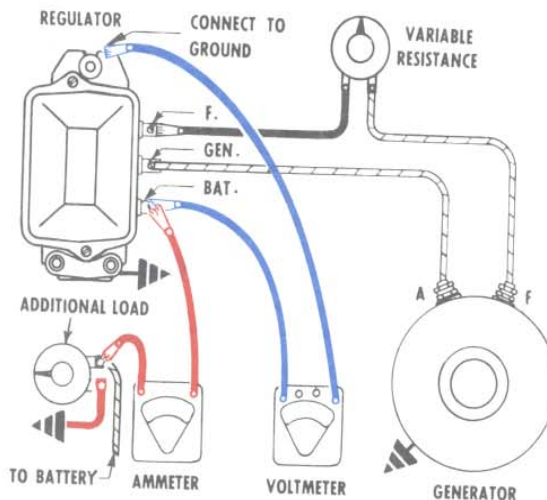

Figure 7—Connections for checking current regulator. Variable resistance used to cycle the generator.
1. Connect ammeter into charging circuit as shown in Figure 7.